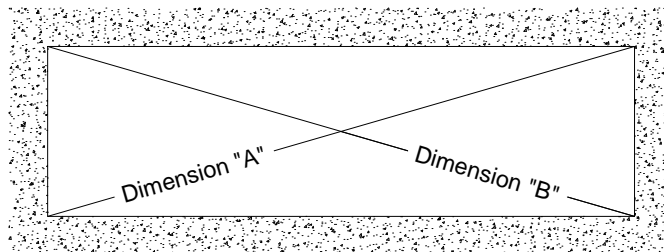

Fig. 28.1
- A. Make sure the opening is square and plumb. Measure each diagonal of the opening. **SEE Fig. 28.1.**